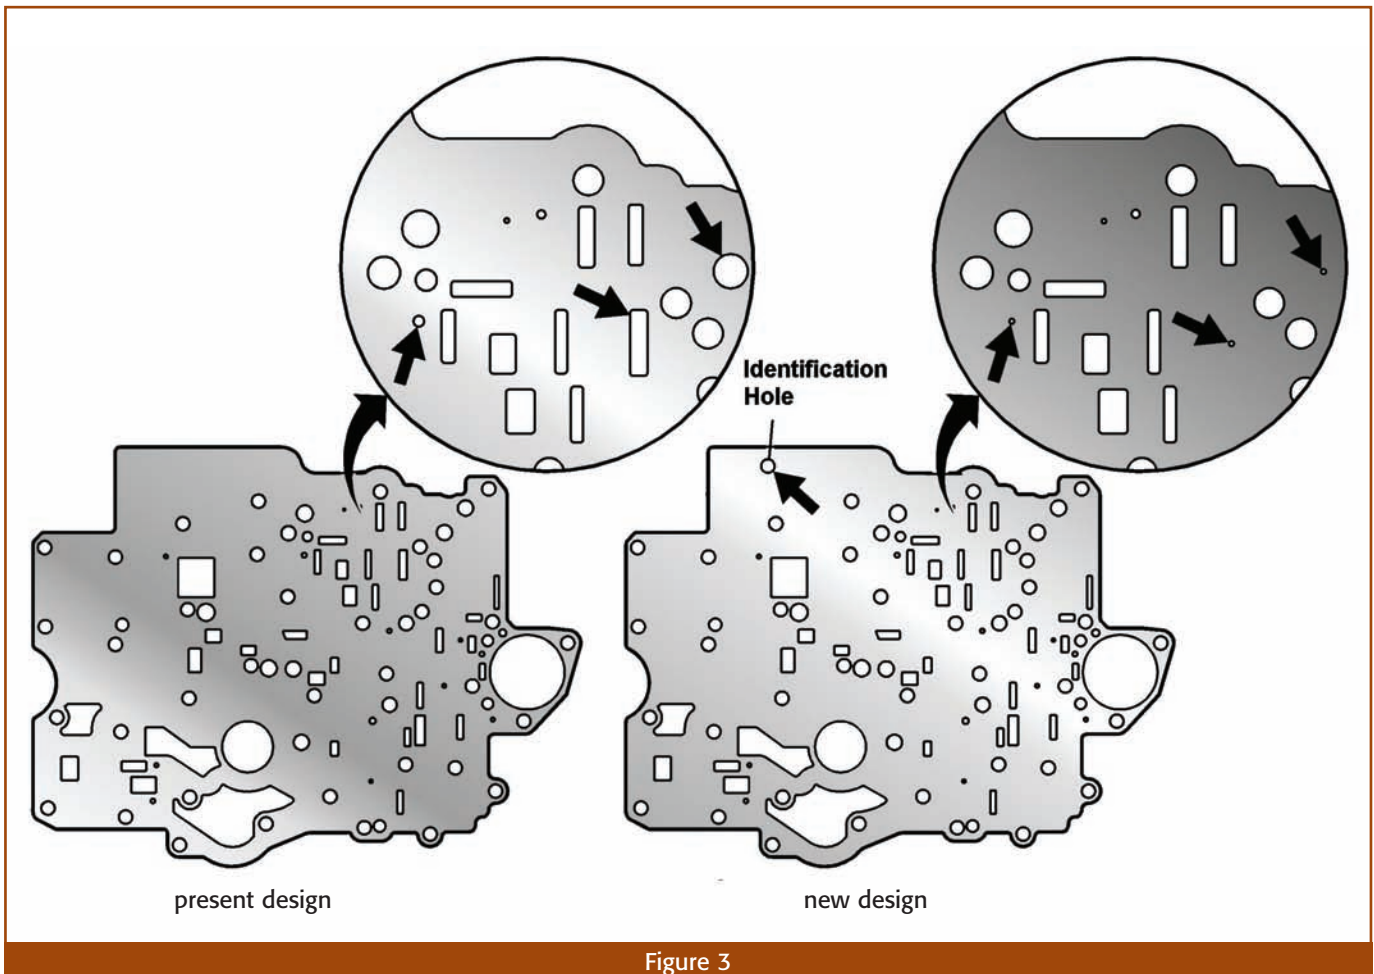

Figure 3
- A new case cover spacer plate (Figure 3).